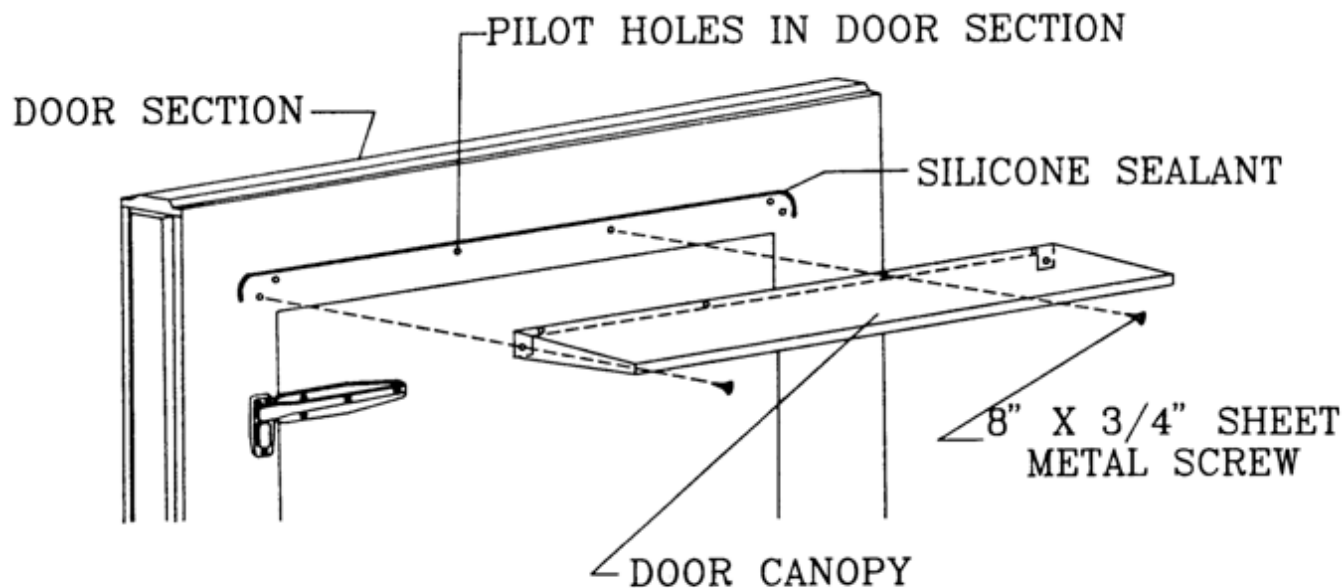

FIGURE 26 - DOOR CANOPY INSTALLATION
1. A door canopy must be installed on all doors exposed to the exterior. Pilot screw holes are provided in the door section (Refer to Figure 26).